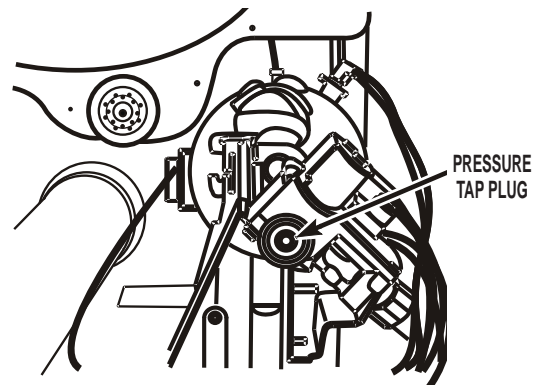

FIGURE 3
- Remove pressure tap plug from valve body. See *Figure 3*.